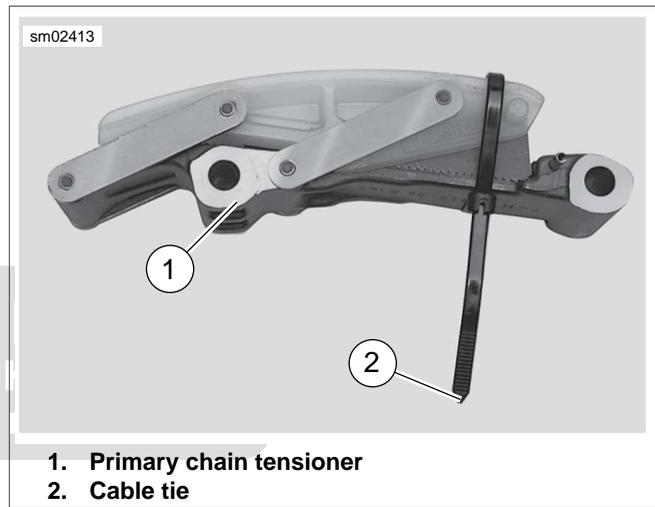
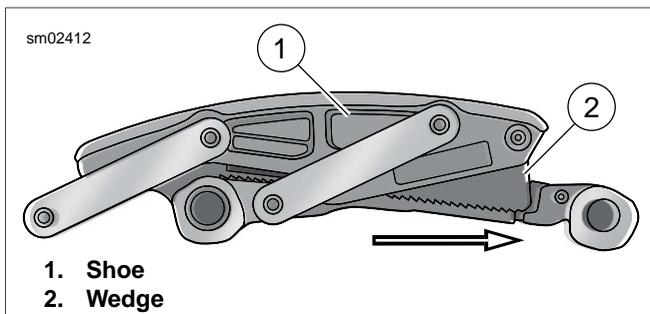

Figure 6-17. Securing Primary Chain Tensioner
Figure 6-16. Primary Chain Tensioner
- See Figure 6-16. Slide wedge (2) of primary chain tensioner in direction of arrow until all travel is removed.
- Push shoe (1) down until it contacts wedge. Keep tension on shoe so wedge stays in place.
- See Figure 6-17. Insert cable tie (2) as shown to hold wedge in place. Make sure end of cable tie is located below primary chain tensioner. If cable tie is installed this way, it will hang below primary cover gasket surface and serve as a reminder to remove cable tie before installing primary cover.